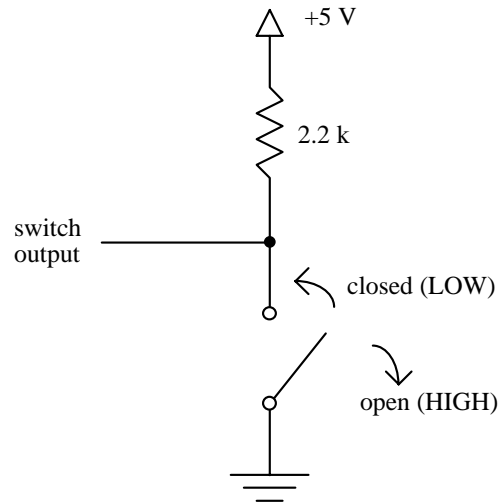

Figure 4 - Simple switch
**Switches** - If switches are not available on the breadboard, they can be formed easily using single-pole single-throw (SPST) switches as shown in Figure 4.